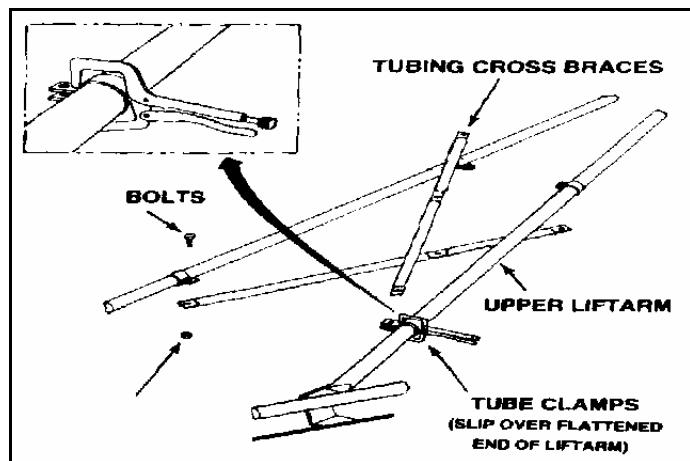

Figure 3.24
9. Attach tubing crossbrace member to the lift arm. The correct assembly method is to slide tube clamp up lift arm and loosely attach the tubing crossbraces to the tube clamps with five 7/16" x 1" bolts and locknuts. Use a c-clamp vise grip to squeeze and hold the tube clamps in position for attachment to the tubing crossbraces. Once in position, tighten the bolts (Figure 3.24).